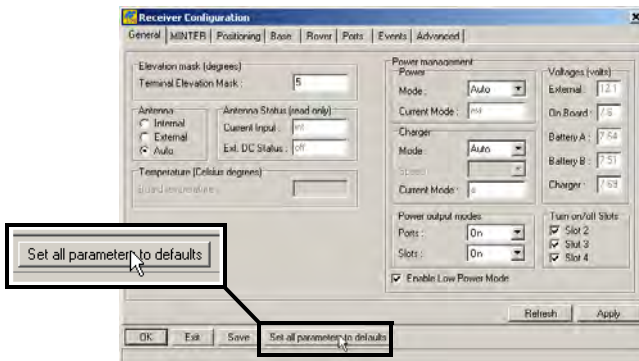

Figure 3-32. Set All Parameters to Defaults
- Click the **MINTER** tab and configure the following settings (Table 3-3), then click **Apply** (Figure 3-32).